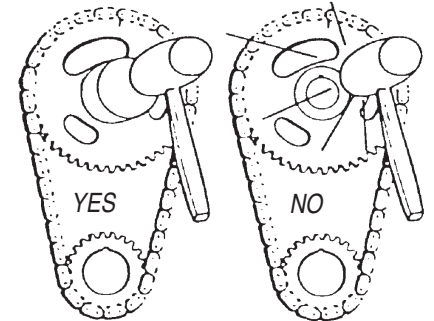

Figure 1 - Use a sleeve to install press-fit sprockets
- USE A SLEEVE for installations that require hammering (see Fig. 1). A brass drift punch may be used if you carefully alternate blows on either side of the sprocket to avoid cocking.